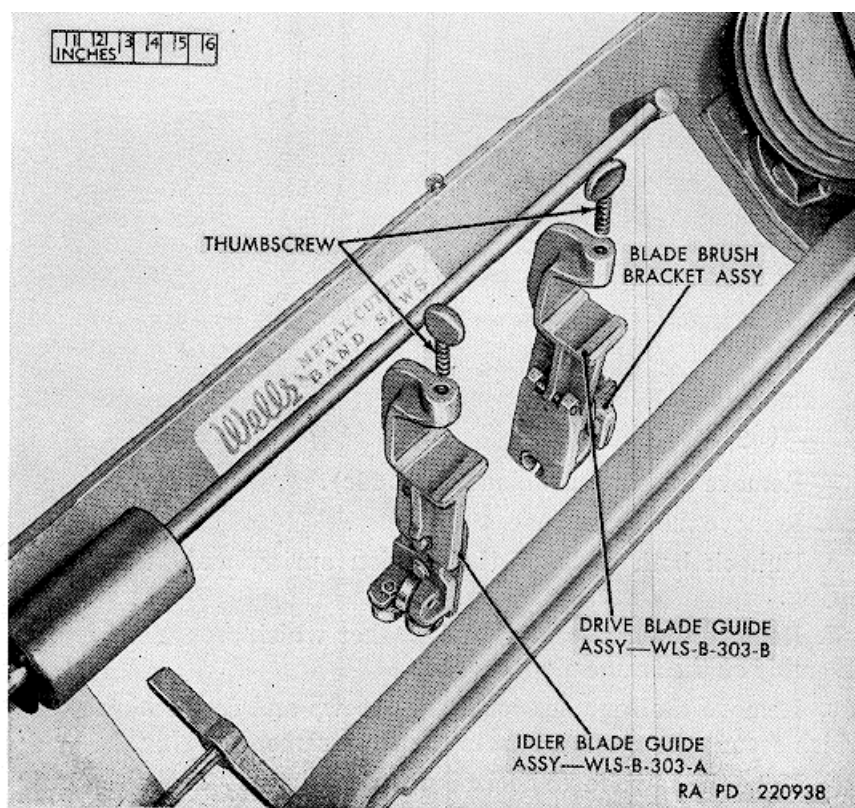
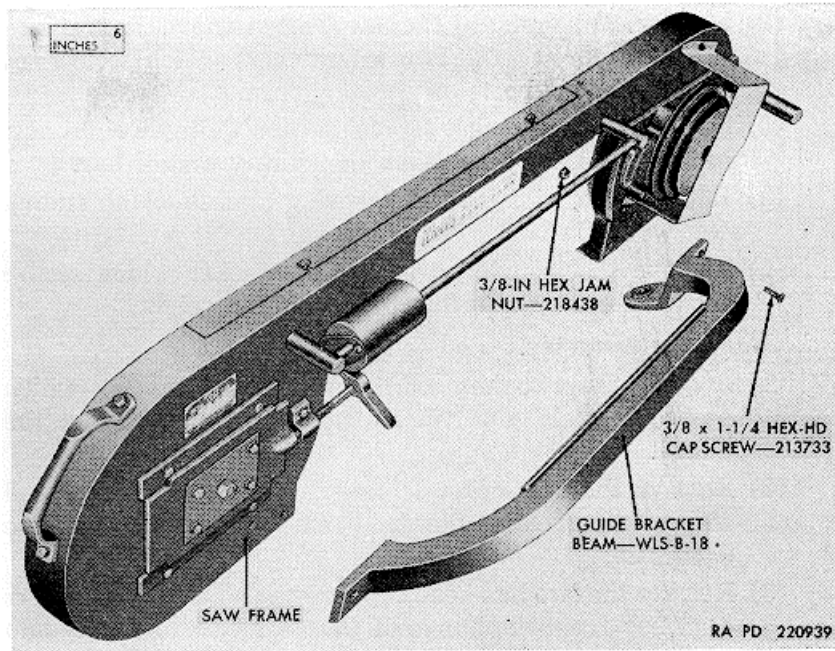

Figure 25. Drive and idler blade guide assemblies—removed from guide bracket beam.
Figure 26. Guide bracket beam-removed from saw frame.
- a. *Drive and Idler Blade Guide Assemblies* (fig. 25).
- (1) Remove the thumbscrew in each blade guide assembly and remove the assemblies from the saw frame.
- (2) Disassemble the blade guide assemblies as instructed in paragraph 40e.
- (3) Disassemble the blade brush bracket assembly as instructed in paragraph 40f.
- b. *Guide Bracket Beam* (fig. 26).
- (1) Remove the four hex-head cap screws and four hex jamnuts which secure the guide bracket beam to the saw frame.
- (2) Lift the beam away from the saw frame.